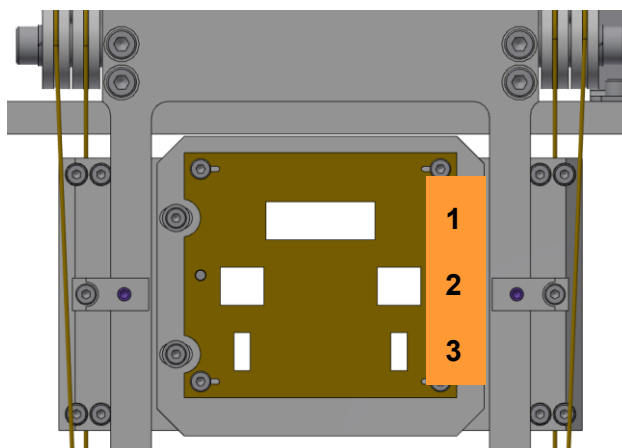

Figure 53: M5 mask assembly (upstream view)
- D. Place the assembly on posts; see as example Figure 53, right side.